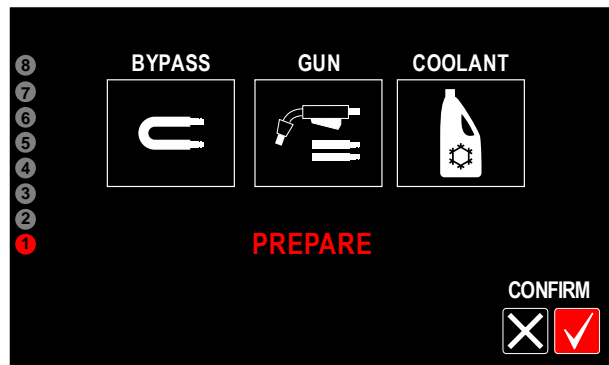
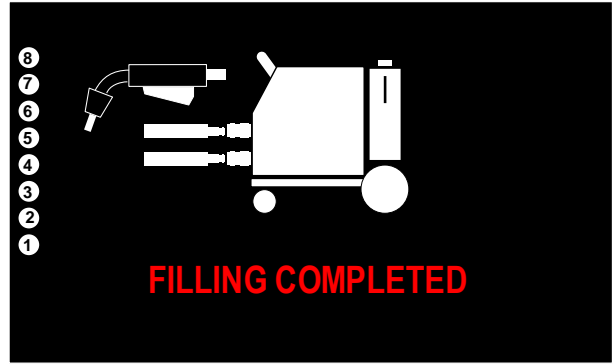
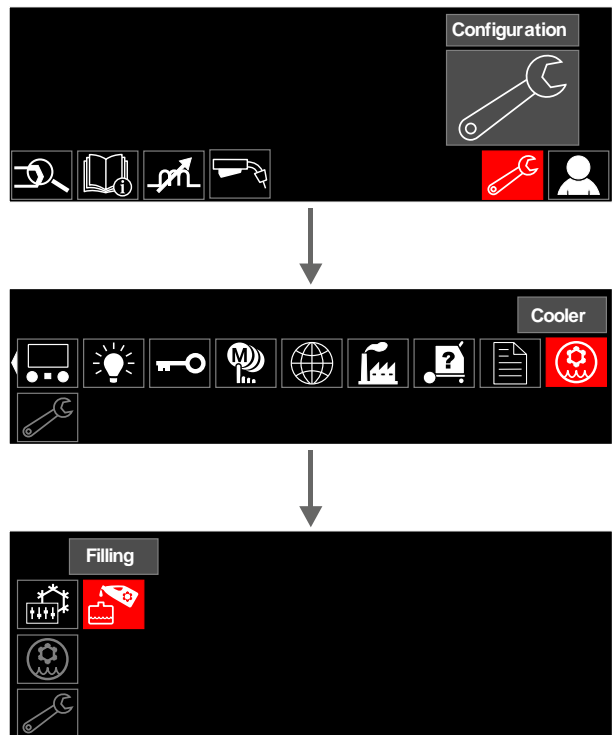

Figure 14
Figure 22
Figure 23
- When the **COOL ARC® 26** was connected for a first time welding source automatically starts the filling procedure (Figure 14). Remove the reservoir cap to prevent generating a partial vacuum.
- If the filling process is successful (Figure 22), the cooler switches to **AUTO** mode.
If different COOL ARC® 26 is connected, filling procedure should start manually. First follow as shown Figure 23 and then repeat steps shown on Figure 14 to Figure 22.